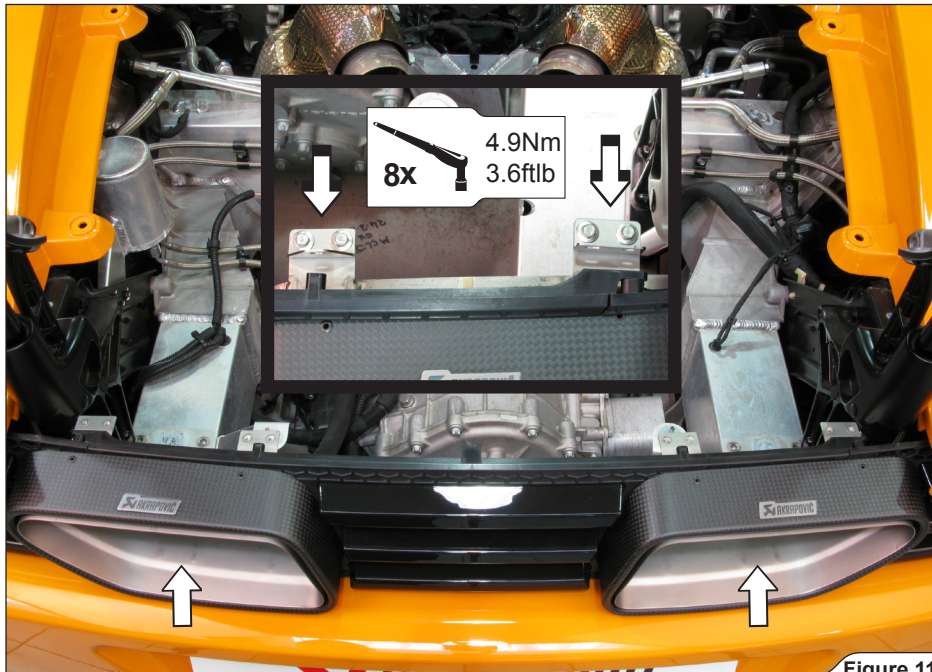

Figure 11
1. Correctly orient and carefully insert the tail pipes into the tail trim panel and install the brackets onto the tail pipes, using bolts from Akrapovič installation kit, as shown (Figure 11).